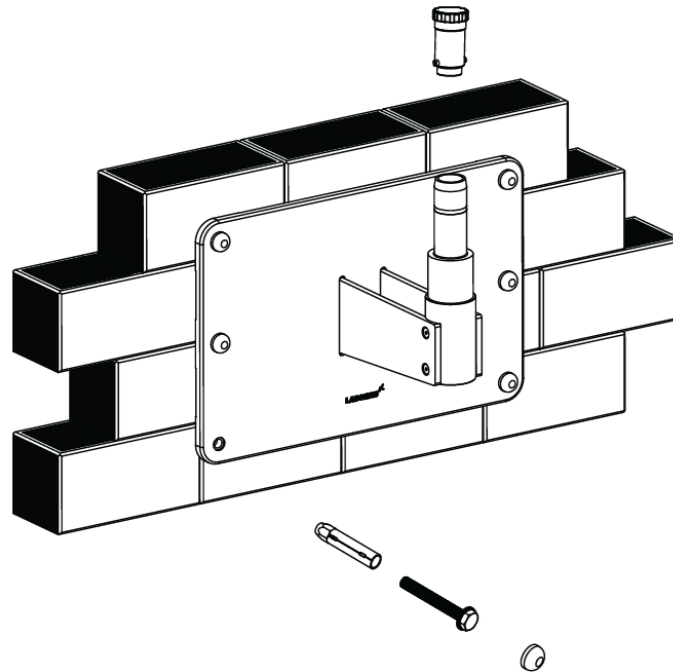

Fig. 22
- 3. Assemble the Arm on wall mount shaft referring fig.22 and Re-install the threaded plug into place.**